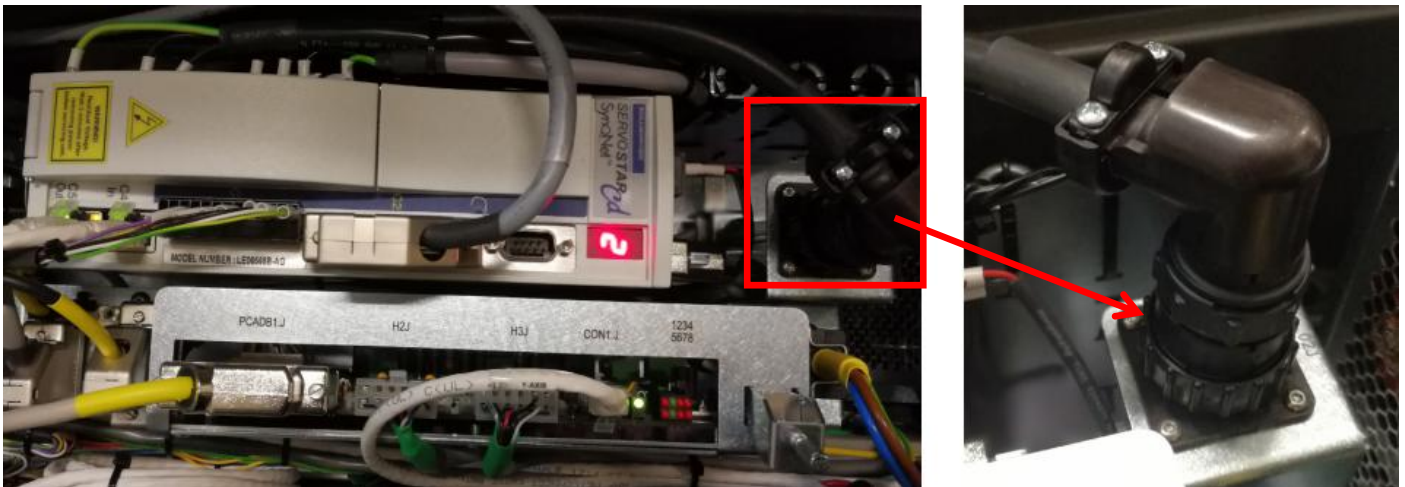

Figure 3
6. Disconnect Y-Axis Motor Power Cable as Figure 3.